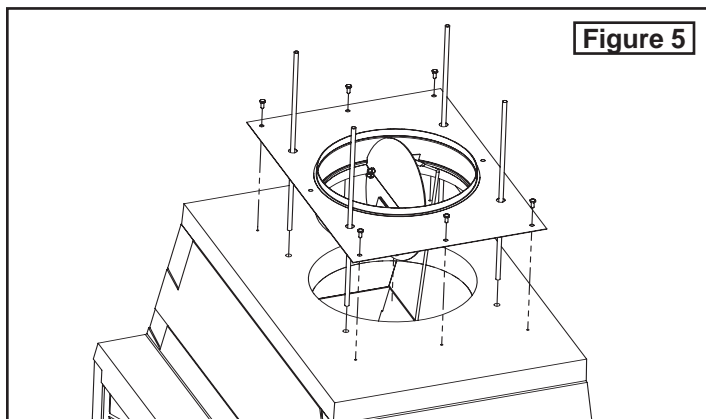

Figure 5
2. After completing your assembly of the Burntech® Masonry Fireplace, install the Anchor/Damper Plate Assembly (APD-AC14) as shown in Figure 5. Apply hi-temp sealant around the lower ring just below the plate to prevent flue products from leaking. Use the four holes of the Anchor Plate as a template to drill Ø3/8" x 1" deep holes for the #3 rebar (See Fig.5). Secure with ITW Epoxy or Simpson Epoxy. Follow manufacturer's instructions for proper application of adhesive.